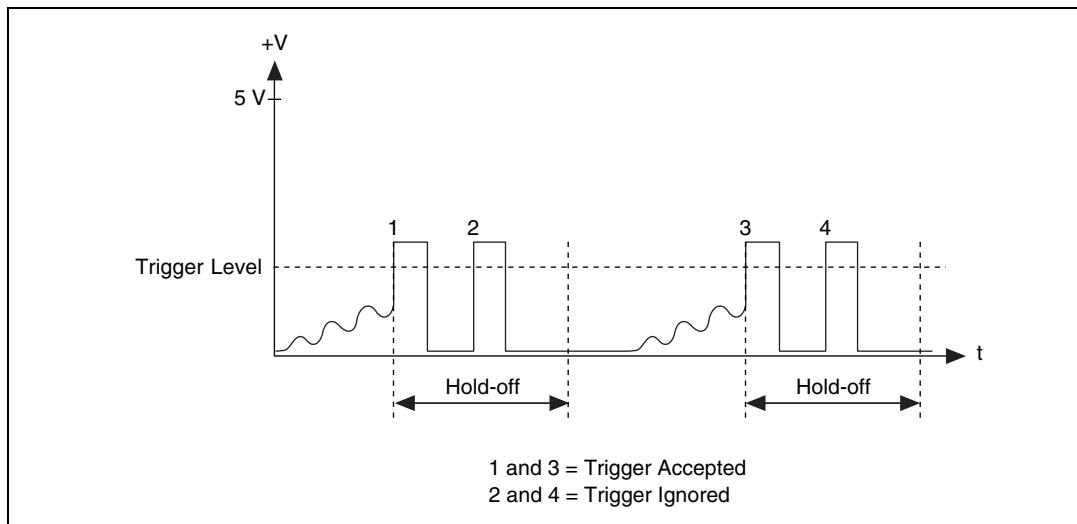

Figure A-6. Difficult Pulse Train Signal
- General signal shape—Some signals are easy to capture by ordinary triggering methods. A few iterations on the trigger level finally render a steady display. This method works for sinusoidal, triangular, square, and saw tooth waves. Some of the more elusive waveforms, such as irregular pulse trains, runt pulses, and transients, may be more difficult to capture. Figure A-6 shows an example of a difficult pulse-train trigger.
Ideally, the trigger event should occur at condition one, but sometimes the instrument may trigger on condition two because the signal crosses the trigger level. You can solve this problem without using complicated signal processing techniques by using *trigger hold-off*, which lets you specify a time from the trigger event to ignore additional triggers that fall within that time. With an appropriate hold-off value, the waveform in Figure A-6 can be properly captured by discarding conditions two and four.